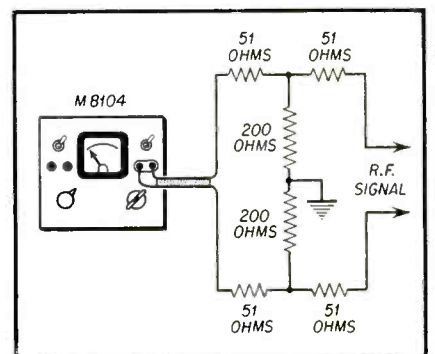

Fig. 3—Use of resistance pad with Field Strength Meter.
2. *RF* cables and lines should always be properly terminated in their characteristic impedance. Since in practice this is not always possible, it may be necessary to insert a resistance matching pad in the line. See Fig. 3. While this will "cool off" the line by reducing standing waves, it will also cause some loss in signal strength. In the case of a 6 db pad it will cause the signal to drop two times down from the original level.